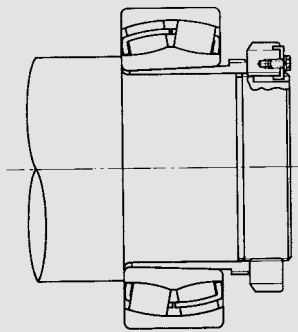
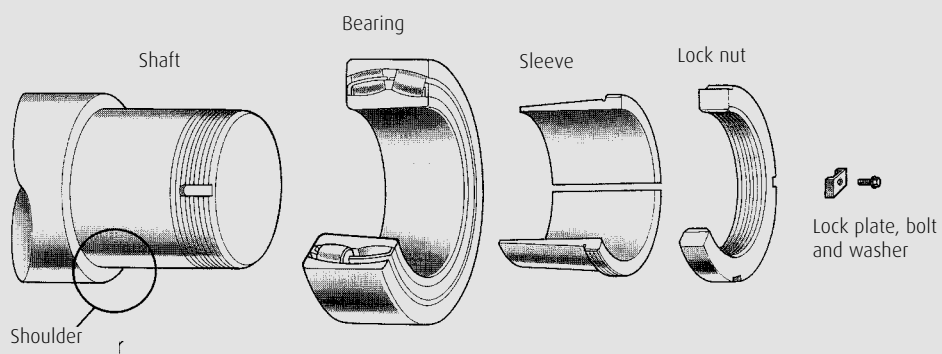

Fig. 6.15 Assembly view
Fig. 6.16 Hydraulic nut method
a) Lock nut method (Fig. 6.15 and Fig. 6.16)